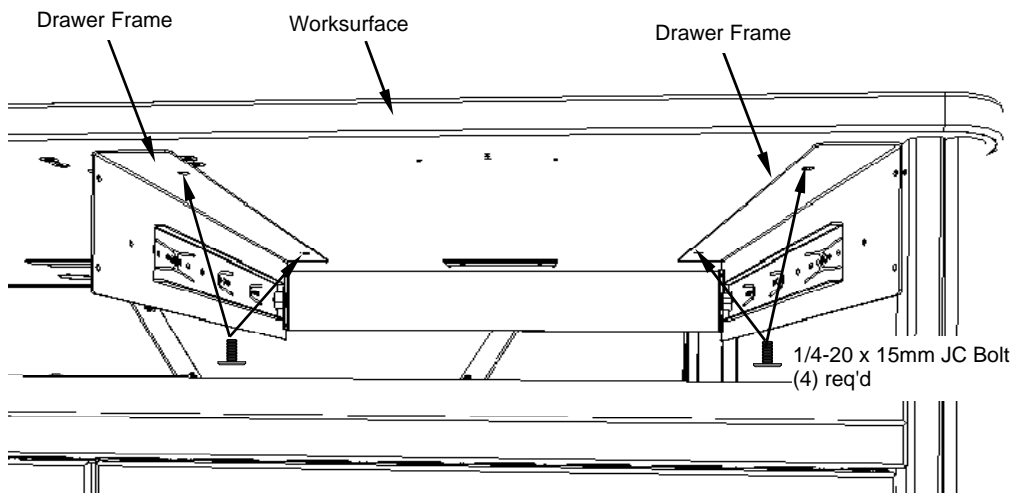

Figure 2
A. Determine the preferred location on the Lectern for the Drawer (left or right-side.) **Figure 2** shows a right-side installation.
B. Attach the Drawer Frame to the underside of the worksurface using (4) 1/4-20 x 15mm JC Bolts and the threaded worksurface inserts. Tighten securely. **Figure 2.**